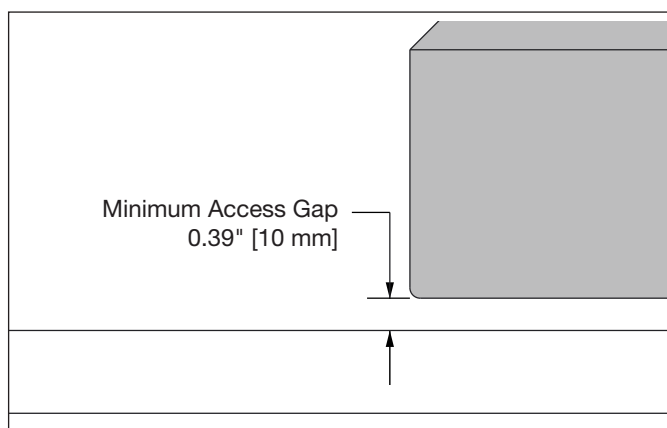

Figure 2, Minimum Access Gap
2. Ensure the minimum access gap under the item to be lifted measures 0.39" [10 mm] or greater. Refer to Figure 2.
3. Ensure the minimum access gap under the item to be lifted measures 0.39" [10 mm] or greater. Refer to Figure 2.